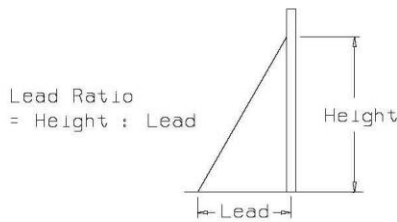

Figure 1
2. Determine the guying Lead Ratio by referring to Figure 1, page 3.
6. Determine the guying Lead Ratio by referring to Figure 1, page 3.